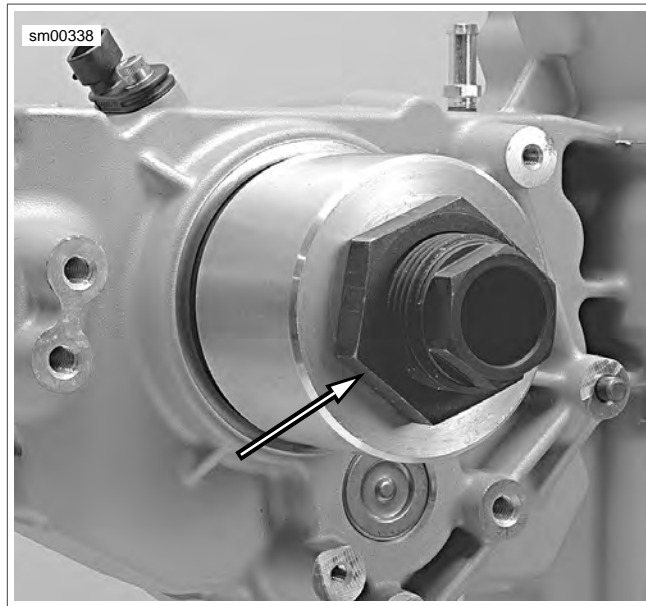

Figure 5-81. Install Nut (Typical)
6. See Figure 5-81. Thread NUT (Part No. HD-47856-5) onto end of adapter, until it tightens against installer.